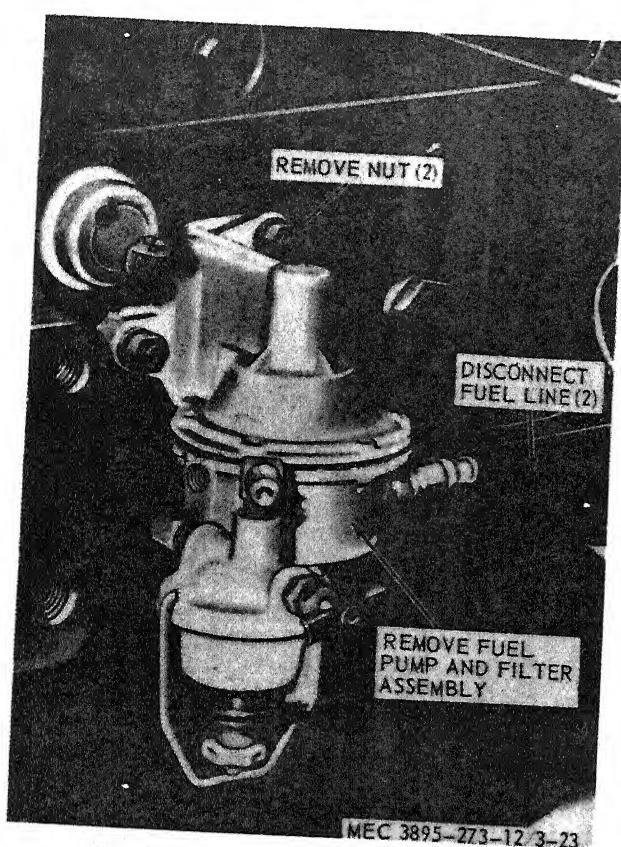

Figure 3-21. Fuel pump, removal and installation.
a. Removal. Remove the fuel pump from the engine as instructed on figure 3-21.
- (1) Clean all parts with an approved cleaning solvent.
- (2) Inspect the fuel pump for wear, leaks, defects, and damage.
(3) Replace a worn, damaged, or defective fuel pump.
c. Installation. Install the fuel pump in reverse of the instructions on figure 3-21. Put new gasket in between pump-flange and pad.